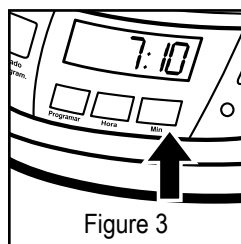

Figure 3
2. Press and hold the MIN button until the clock displays the correct minute. See Figure 3.